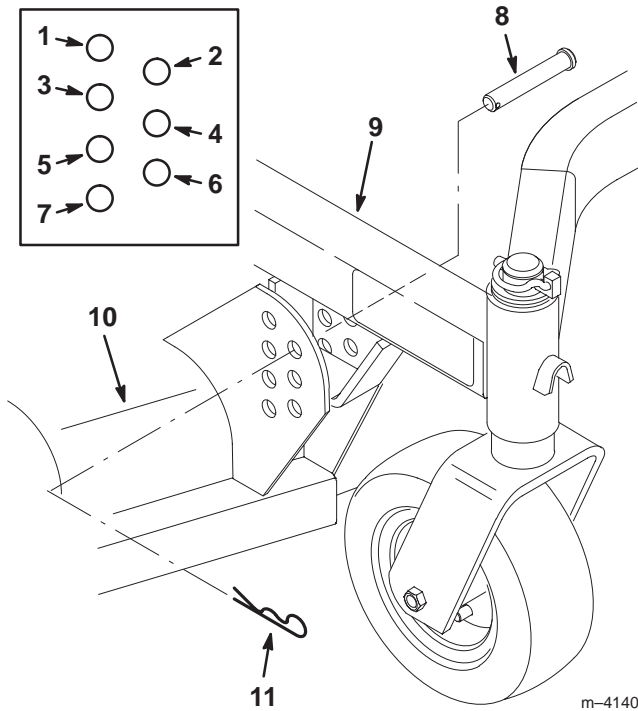

Figure 8
2. Mount the cutting deck to the carrier frame with 4 clevis pins and hairpin cotters (Fig. 8).